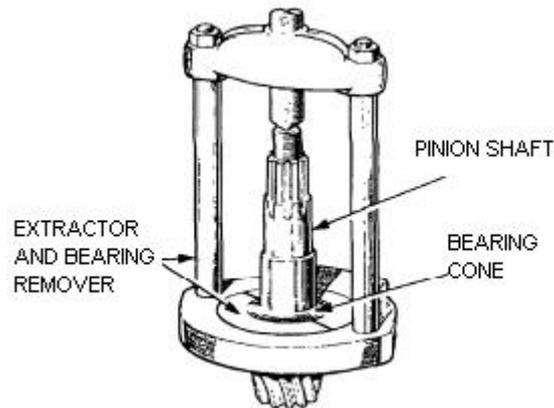

Figure 208 Removing The Pinion Bearing Cone
- p. Using the extractor (Table 3, Serial 52) and bearing remover (Table 3, Serial 38), remove the inner bearing cone from the pinion shaft (Figure 208)